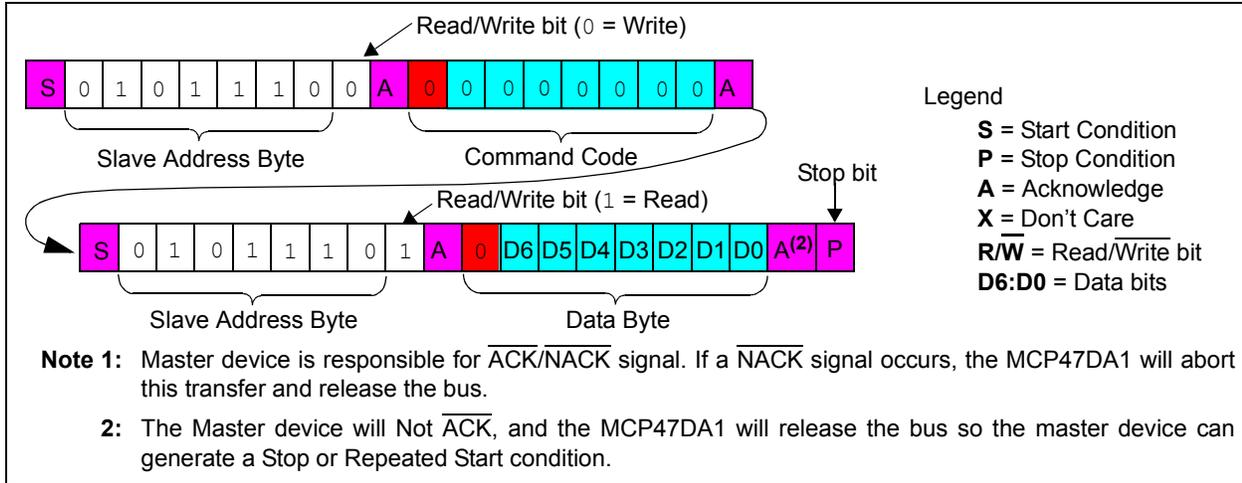

FIGURE 5-14: I²C Read Command Format.
The command is terminated once a Stop (P) or Restart (S) condition occurs. Refer to Figure 5-14 for the read command sequence. For a single read, the master sends a Stop or Restart condition after the first data byte (and A bit) is sent from the slave.